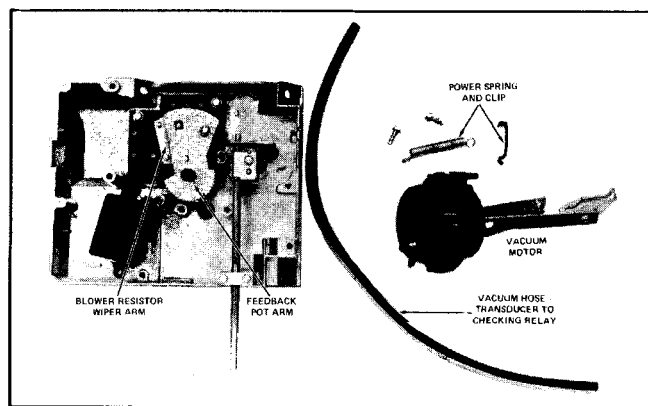

Fig. 1B-58 Vacuum Motor and Power Spring
5. To replace, reverse removal procedure. See Figs. 1B-57 and 1B-58.